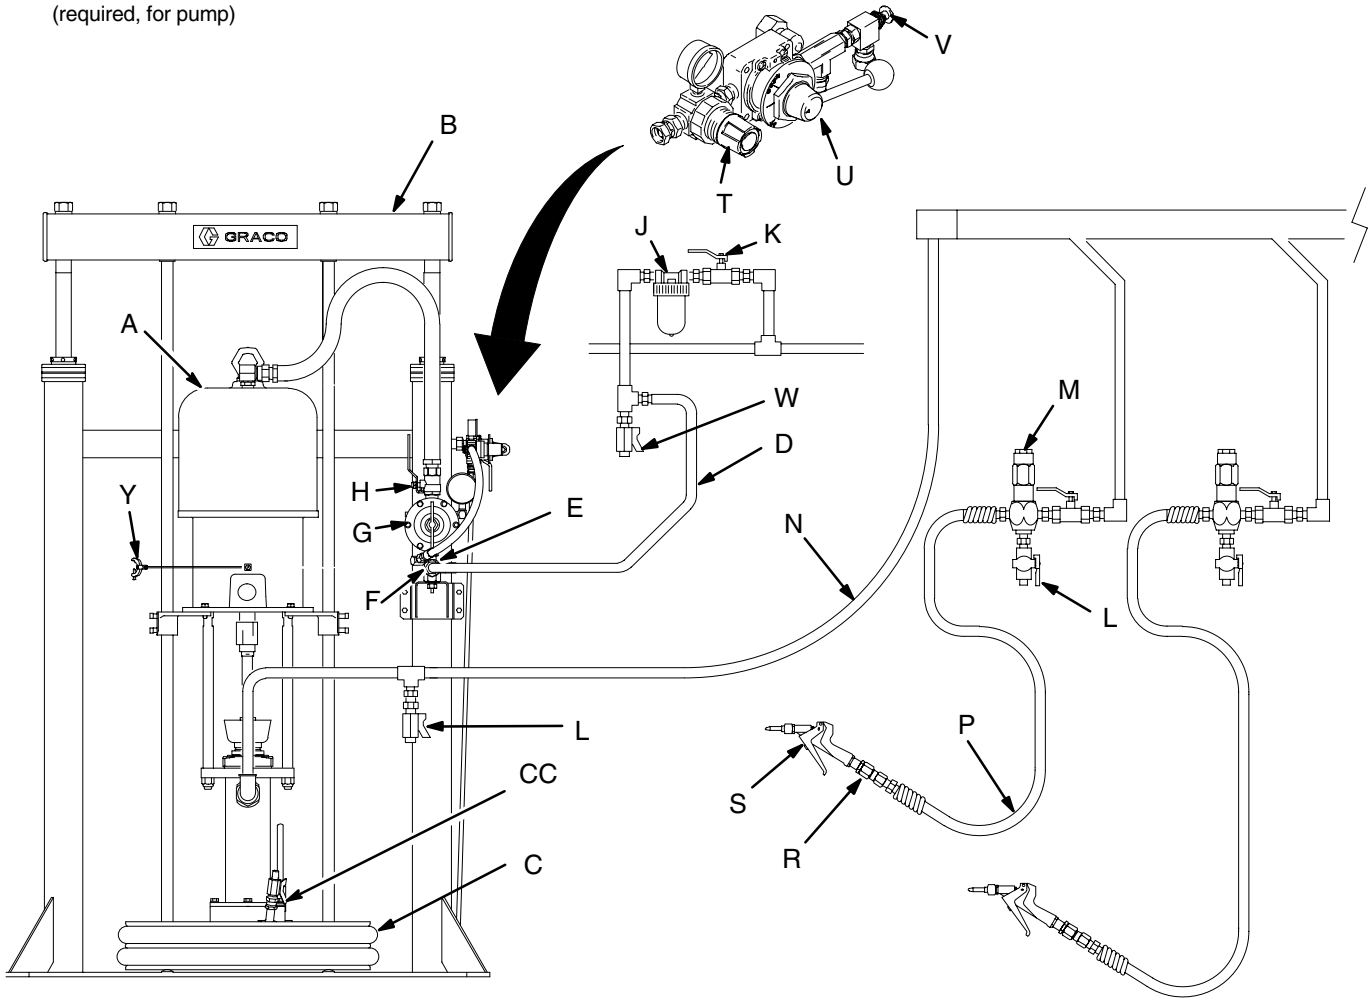

Fig. 2
Fig. 2 is only a guide for selecting and installing system components and accessories. Contact your Graco distributor for assistance in designing a system to suit your particular needs.
Refer to Fig. 2.
Install the following accessories in the locations shown in Fig. 2, using adapters as necessary:
- **A fluid drain valve (L)** is required in your system to relieve fluid pressure in the hose and gun/valve (see the **WARNING** on page 7). Screw the drain valve into the open branch of a tee mounted in the fluid line. Install the drain valve pointing down, but so the handle will point up when opened.
- **A fluid regulator (M)** controls fluid pressure to the gun/valve, and dampens pressure surges.
- **A gun or valve (S)** dispenses the fluid. The gun shown in Fig. 2 is a dispensing gun for highly viscous fluids.
- **A gun swivel (R)** allows freer gun/valve movement.
1. Refer to Fig. 2. Lock gun/valve trigger safety.
3. Shut off main air bleed valve (E, required in your system). Set ram director valve (U) to DOWN.
7. Open drain valve (L, required in your system) and/or pump bleeder valve (H), having container ready to catch drainage.